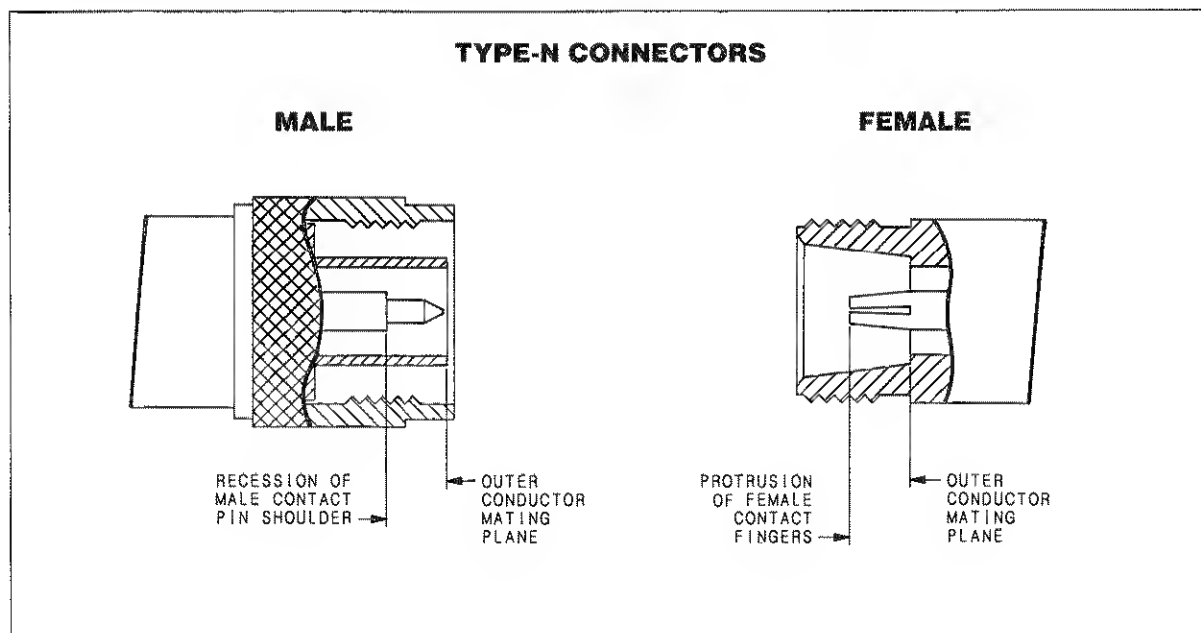

Figure 7. Type-N Connectors
**Type-N Connectors.** Type-N connectors differ from other connector types in that the outer conductor mating plane is offset from the mating plane of the center conductors (Figure 7). The outer conductor sleeve in the male connector extends in front of the shoulder of the male contact pin. When the connection is made, this outer conductor sleeve fits into a recess in the female outer conductor behind the plane defined by the tip of the female contact fingers.